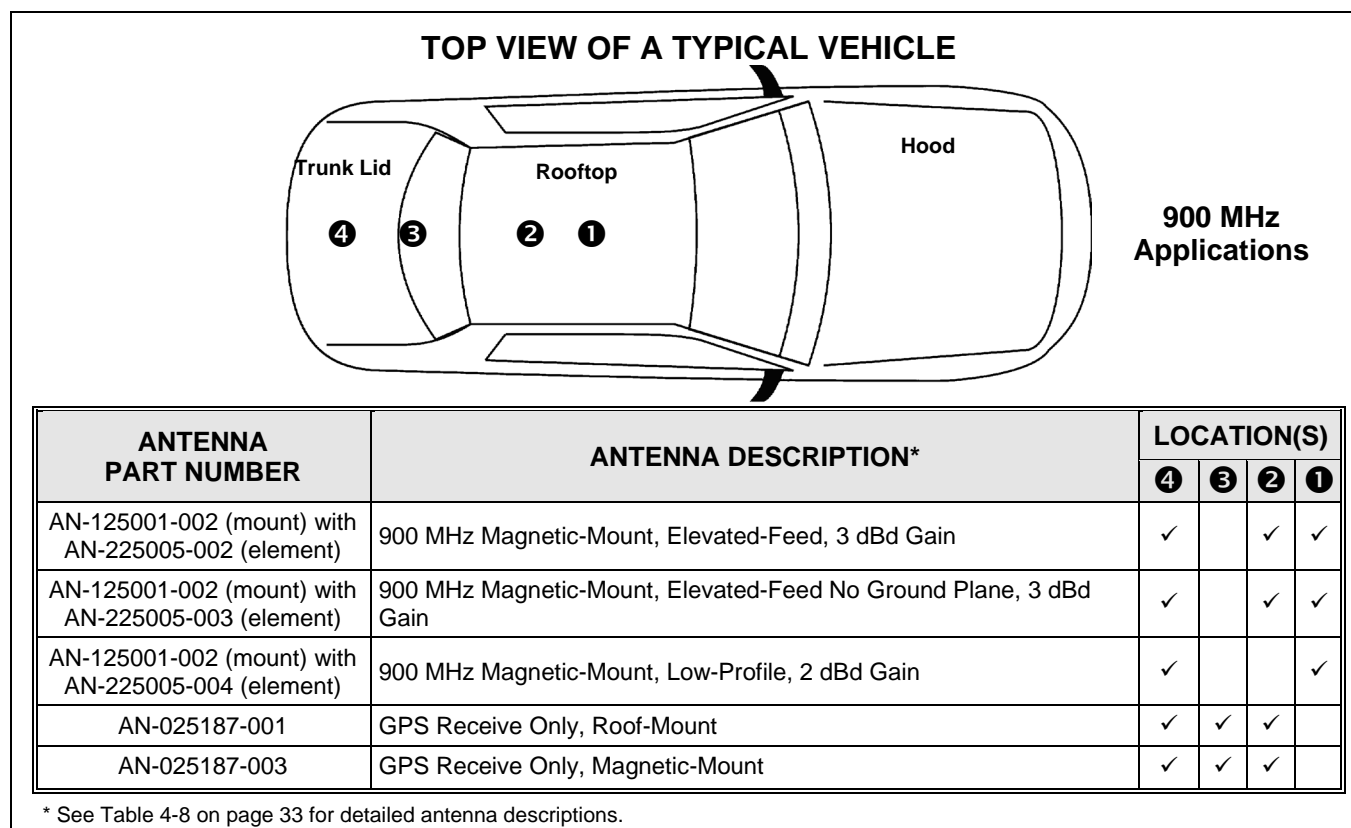

Figure 6-2: Recommended Antenna Mounting Locations for a 900 MHz M5300 Mobile Radio
At this time, review all information presented in the REGULATORY AND SAFETY INFORMATION section of this manual (page 7). A transmitting antenna must be installed in accordance with the guidelines presented in the REGULATORY AND SAFETY INFORMATION section, and in this section. In order to reduce human exposure to radio frequency (RF) electromagnetic energy during transmit mode, use Figure 6-1 (for an 800 MHz radio) or Figure 6-2 (for a 900 MHz radio) as a guide for determining the best possible mounting configuration/location. Also refer to the recommended minimum lateral safe distances from a transmitting antenna listed in Table 1-1 (on page 9) for 800 MHz M5300 mobile radios, and in Table 1-2 (on page 12) for 900 MHz M5300 mobile radios.
Antennas must be mounted in four (4) possible locations on the vehicle. Figure 6-1 (for an 800 MHz radio) and Figure 6-2 (for a 900 MHz radio) show the recommended locations and antenna part numbers. Also, see Table 4-8 for additional information. Always follow the antenna manufacturer's instructions when mounting an antenna.
The center of the vehicle's roof is the best location for a rooftop-mount antenna (location ❶ in Figure 6-1 and Figure 6-2). For optimal performance, the mounting area under the antenna must be flat with a minimum radius of six (6) inches of metal ground plane. It must be located directly in the center of the roof to minimize human exposure to RF electromagnetic energy. Other obstructions such as a light bar or another antenna may prevent the antenna from being mounted in the direct center of the roof. In this case, the antenna should be mounted a minimum of one foot away from and behind the obstruction but in the middle of the roof with respect to the left and right sides of the vehicle (location ❷ in Figure 6-1 and Figure 6-2).
Certain vehicles do not allow for the antenna to be placed in the center or center-rear of the roof. In this case, the next best location for the antenna is in the direct center of the trunk lid (location ❹ in Figure 6-1 and Figure 6-2). In this case, an elevated-feed-point antenna is recommended. Although this type of antenna does not require a metal ground plane, it must be located directly in the center of the trunk lid to minimize human exposure to RF electromagnetic energy.
If the M5300 mobile radio does not use a GPS combination-type antenna and it is equipped with a GPS receiver, a stand-alone GPS receive antenna must be separately located and mounted. The vehicle's rear deck lid (location ❸ in Figure 6-1 and Figure 6-2) is the recommended mounting location for this case. This locates the GPS antenna inside the vehicle.
As presented in the previous section, various antenna mounting locations exist. Optimal performance is achieved via a rooftop antenna mounted in the direct center of the motor vehicle's roof. Table 4-8 which begins on page 33, along with Figure 6-1 (for 800 MHz) and Figure 6-2 (for 900 MHz) list available antennas.